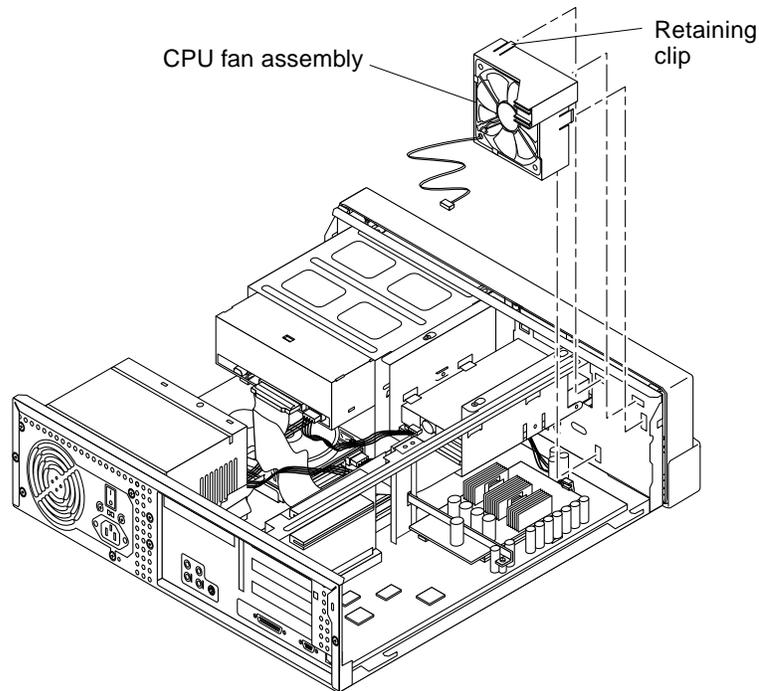

FIGURE 6-7 Removing and Replacing the CPU Fan Assembly
2. Remove the CPU fan assembly as follows (FIGURE 6-7):
1. **Replace the CPU fan assembly as follows (FIGURE 6-7):**